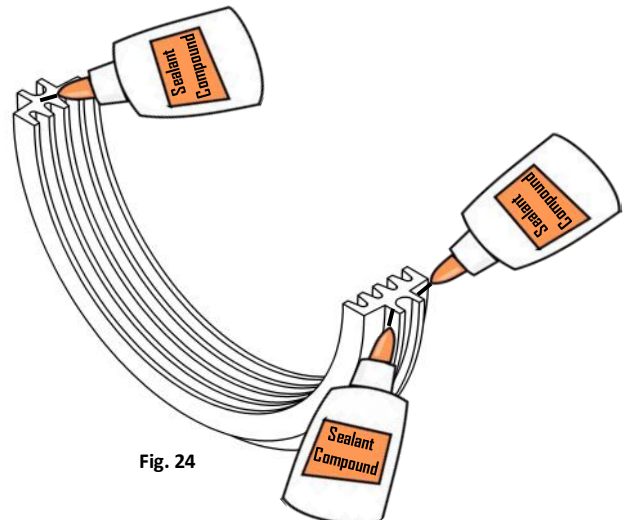

Fig. 24
- Prepare the seal for installation by coating the surface of the split line and the exterior of the spring guide with a thin film of non-hardening sealing compound (Fig. 24).